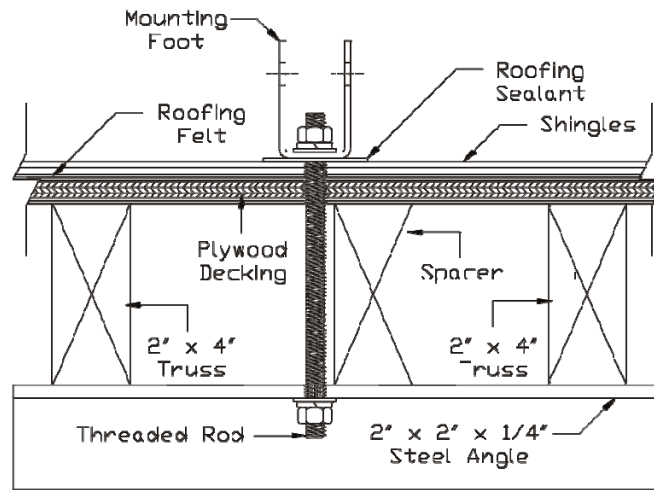

Figure 7: Spanner Mounting
- Spacer blocks are required when the threaded rod is 2" or more from the rafter member (see Figure 7)